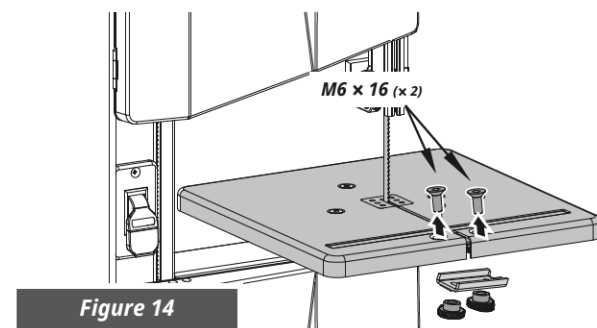

Figure 14
1. Loosen the 2 knurled screws and remove the U shape blocker. (See Figure 14)